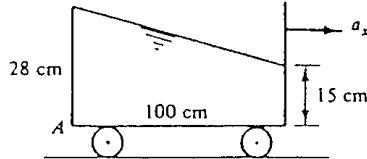

Fig. P2.139
**2.139** The tank of liquid in the figure P2.139 accelerates to the right with the fluid in rigid-body motion. (a) Compute  $a_x$  in m/s2. (b) Why doesn't the solution to part (a) depend upon fluid density? (c) Compute gage pressure at point A if the fluid is glycerin at 20°C.